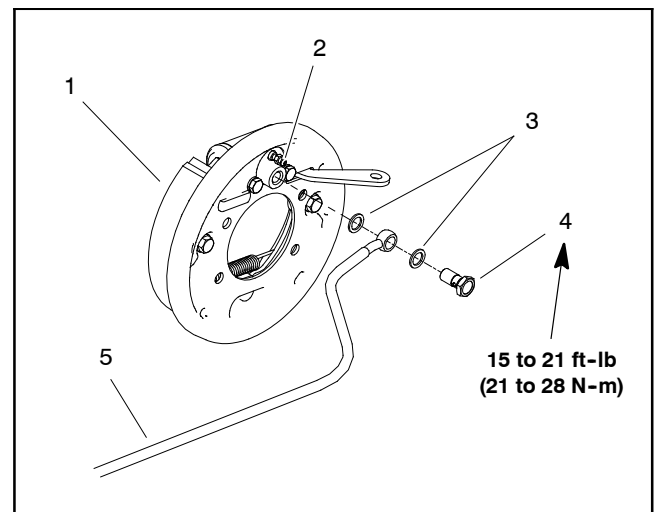

Figure 29
1. Position brake assembly to the transaxle. Secure backing plate of the brake assembly to the transaxle with four (4) socket head screws and flanged lock nuts. Torque screws to **20 ft-lb (27 N-m)**.
2. Position new banjo washer on each side of brake line fitting (Fig. 29). Insert banjo bolt into fitting and thread into wheel cylinder. Torque banjo bolt from **15 to 21 ft-lb (21 to 28 N-m)**.